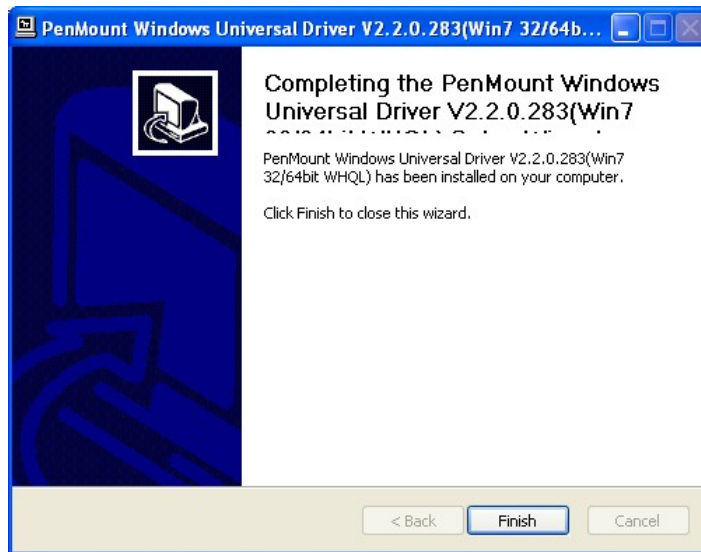

Figure 7-6: Finish Installation
Step 10: When the installation is complete, the complete screen appears. See **Figure 7-6**.